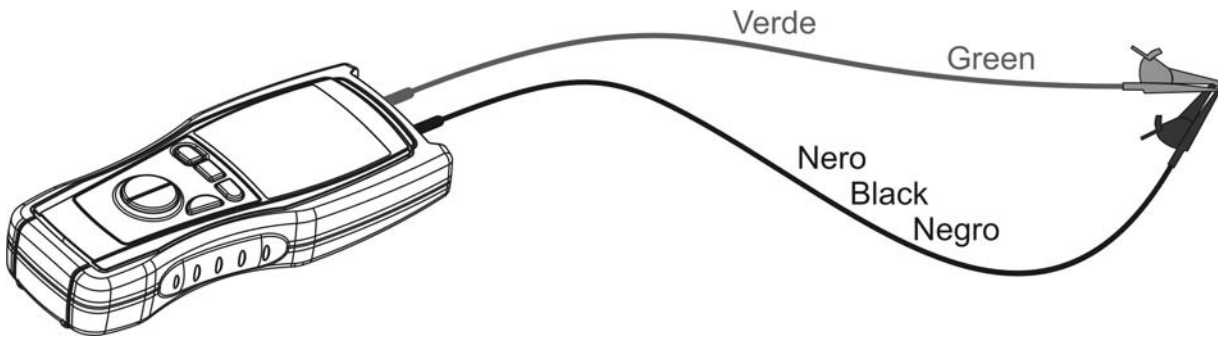

Fig. 5: Connection of the instrument's terminals during calibration procedure
2. Short-circuit the cable ends with each other as shown in Fig. 5 making sure that the metallic parts of test probes and crocodiles are in good touch